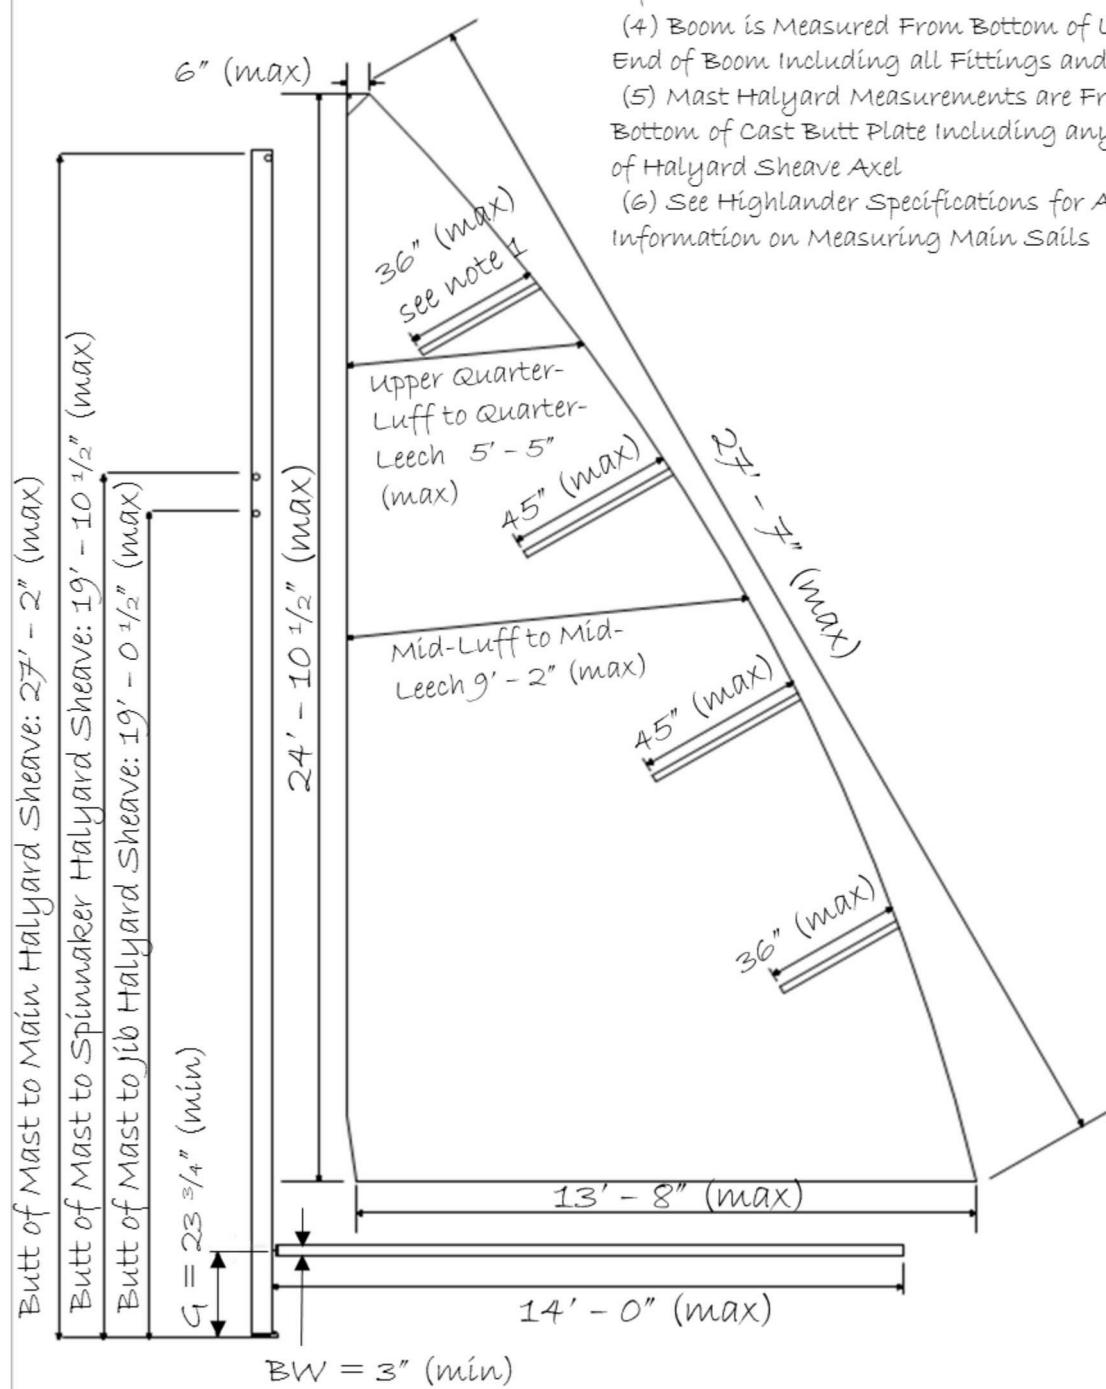

Figure 4 Mast, Mainsail and Boom Measurements
- iii. All measurements shall be made with no tension is applied to the sail, but the cloth shall be smoothed out except that the luff and foot of the main and jib and the sides and foot of the spinnaker shall be measured under a five (5) pound tension.
- iii. There are no minimum measurements. Maximum measurements are shown in Figure 4.
- iv. Up to four battens as shown in Figure 4 are permitted.